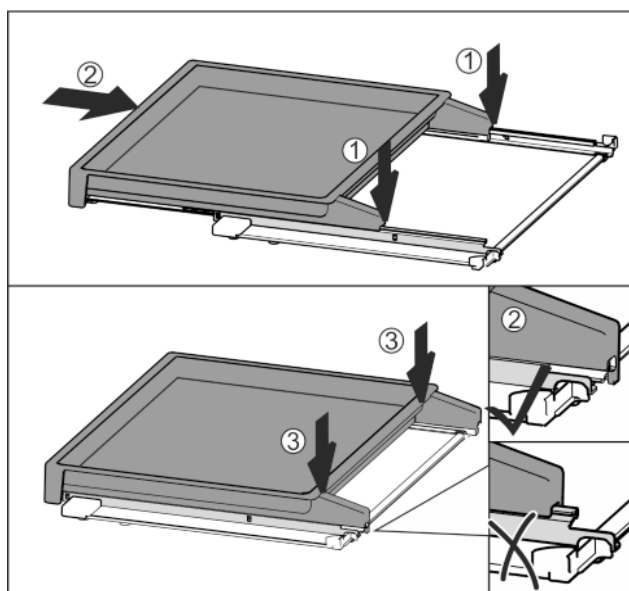

Fig. 38
- Place centrally on the rails Fig. 38 (1).
- Slide the pull-out board all the way in Fig. 38 (2).
- Press down at the back until it clicks into place Fig. 38 (3).